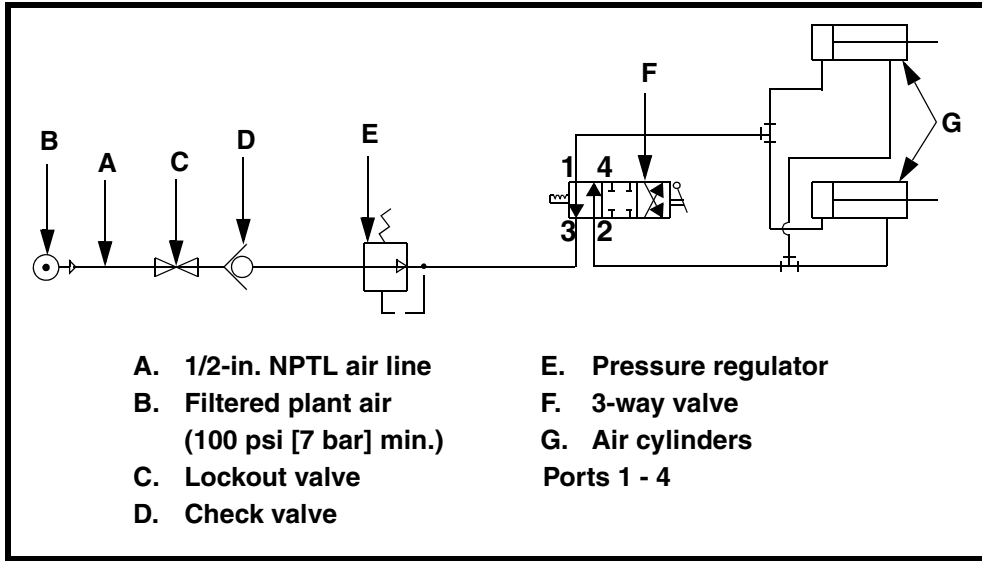

Figure 17. Air Cylinder Schematic (dual tensioners)
12. Install air line to air tensioner as shown in Figure 17.